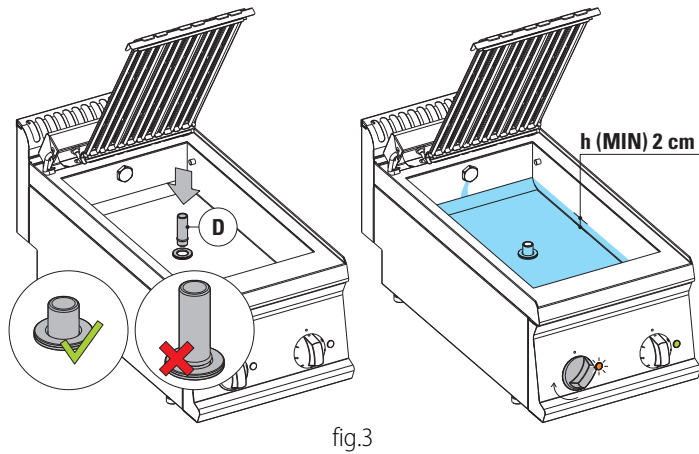

fig.3
- Insert the overflow | **D** | fig.3 right to the bottom.